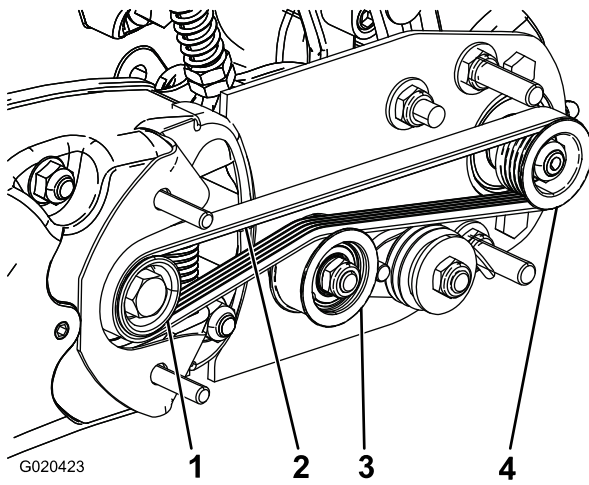

Figure 11
1. Loop the belt around the drive pulley and then over the top of the idler pulley (Figure 11).